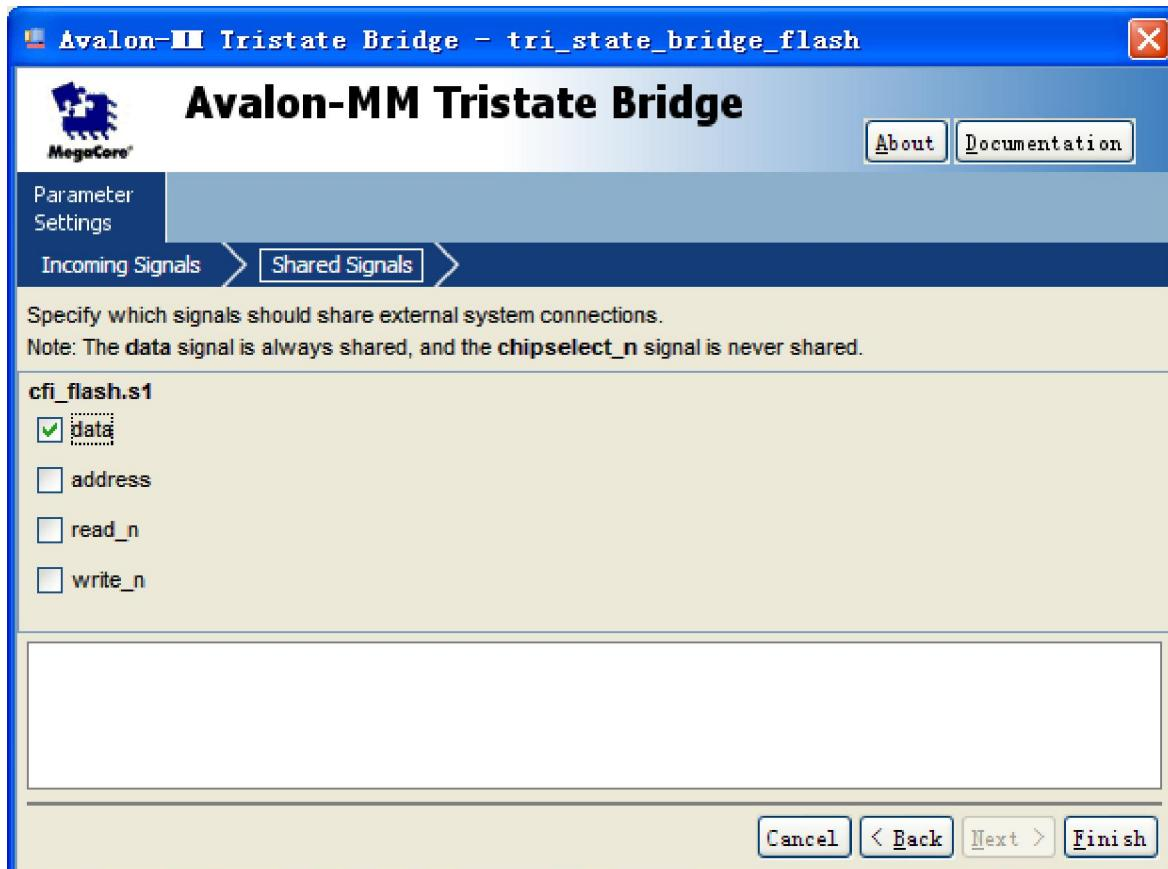

Figure 3-12 Choose data box
10. Choose **tri_state_bridge_flash > Shared Signals tab**, and choose **data** box as shown in **Figure 3-12**.